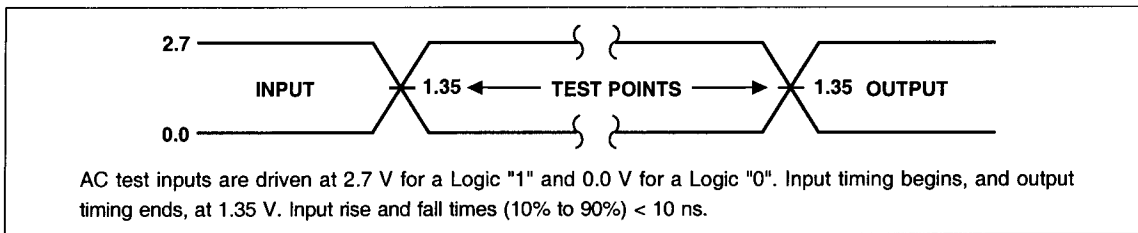

Fig. 9 Transient Input/Output Reference Waveform for Vcc = 2.7 to 3.6 V
1. See AC Input/Output Reference Waveform (Fig. 9 through Fig. 11) for maximum allowable input slew rate.